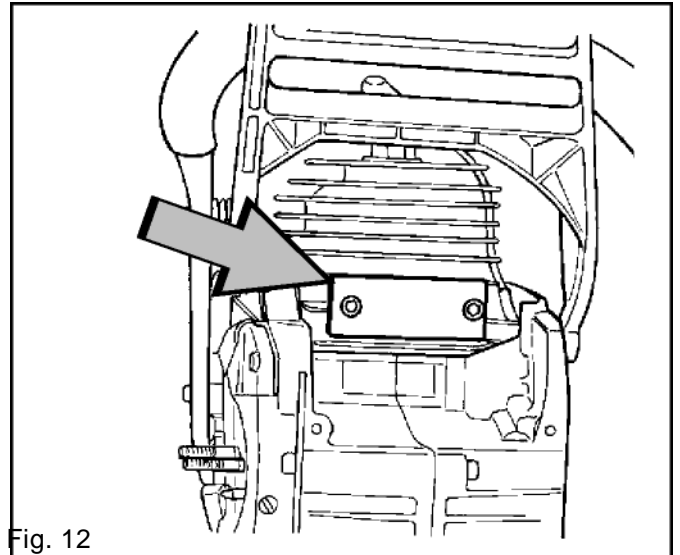

Fig. 12
1. Fit cover plates 502 54 05-01 and 502 71 39-01 to the inlet manifold and exhaust port. See figs. 12 and 13.